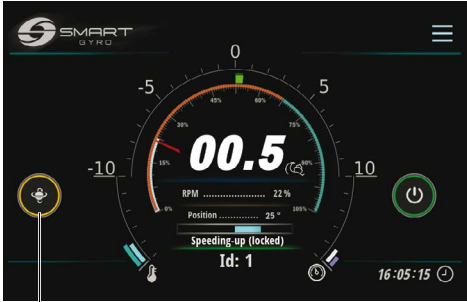

Figure 6
- 6. During flywheel acceleration and as long as the speed remains below 55% of the top speed, precession is not allowed and the circle around the precession icon (Figure 6, (1)) is yellow.